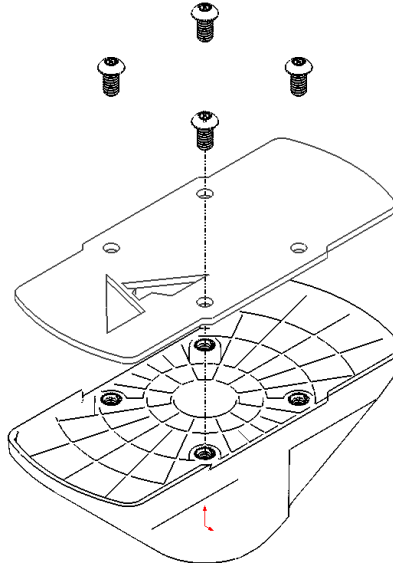

Figure 7: Wheel Wedge, Cover Mounting
- Once everything is securely fastened, bolt the cover to the wheel wedge using the included special bit [70479], and bolts [70478]. Reference Figure 7.